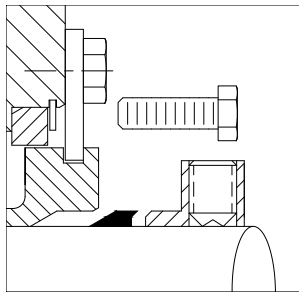

Figure 8: Step 5.
5. Lightly lubricate the sleeve packing with a suitable and compatible lubricant. Slide the drive collar and the sleeve packing along the shaft ahead of the seal. Ensure the wedge and drive collar are oriented properly (Figure 8).